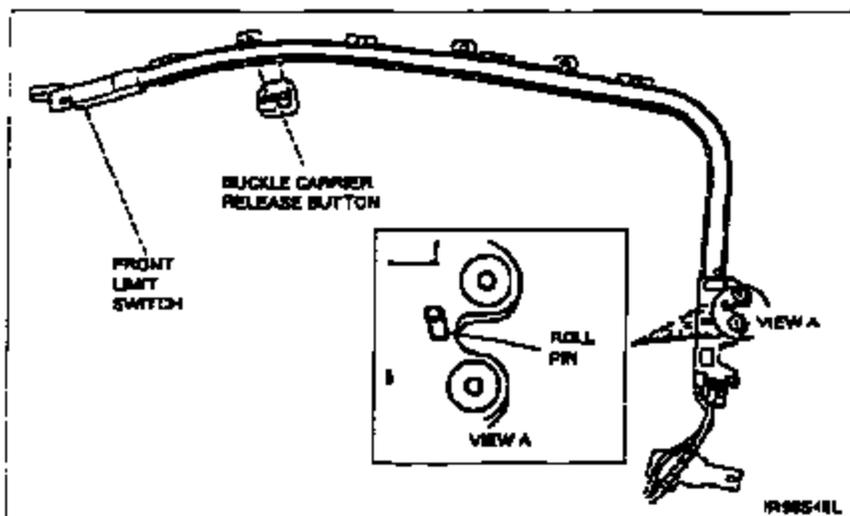

Figure 8
14. Place rail and motor assembly on bench with outboard side facing up. The red release button on the buckle carrier should be facing upward. Refer to Figure 8.
15. Remove roll pin. See Figure 8.